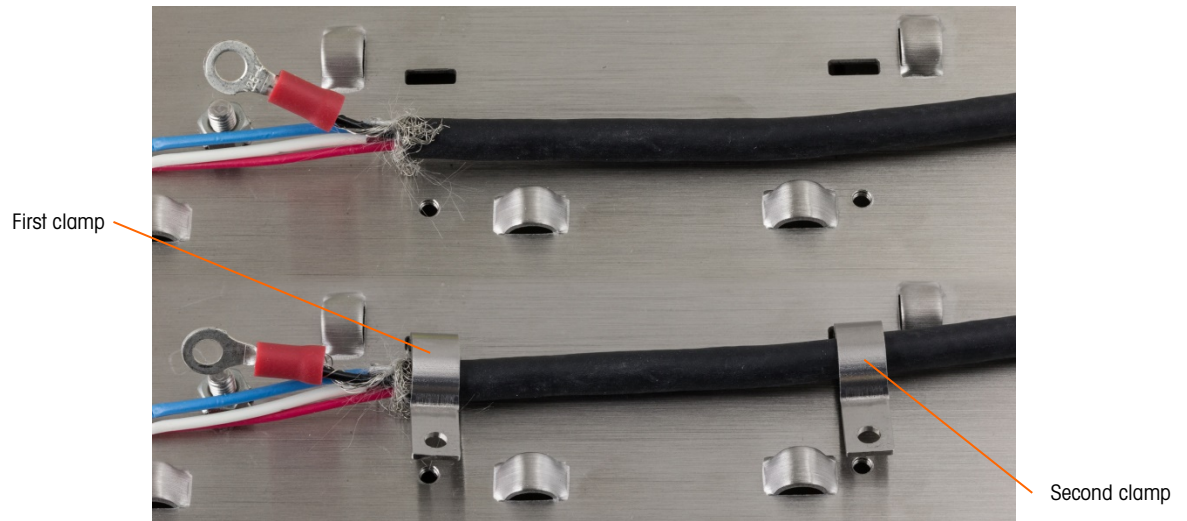

Figure 2-84: Securing the PowerMount Cable – Panel
5. Place the cable in position for clamping, as shown in Figure 2-84. The folded shield wires must be positioned under the first clamp to form a ground connection to the terminal chassis.